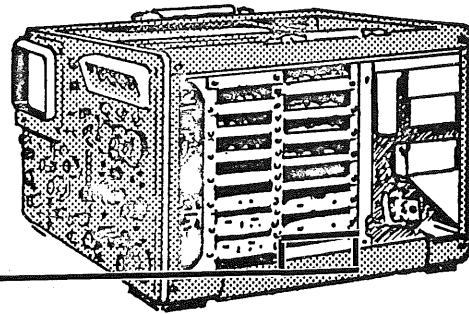
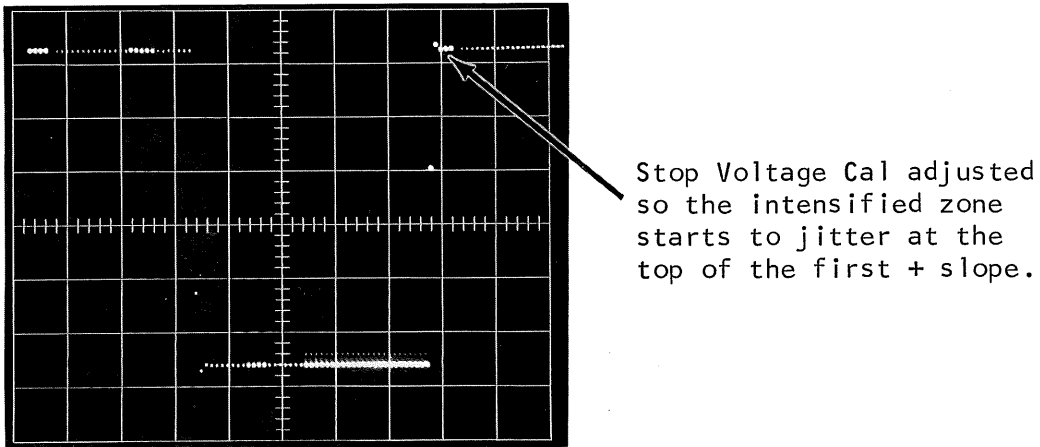

Figure 3-57
Figure 3-58
1. Set the TIMING STOP to B TRACE. Adjust the Stop Voltage Cal, R87 - See Figure 3-57, so the intensified zone just starts to jitter at the top of the first + slope. See Figure 3-58.